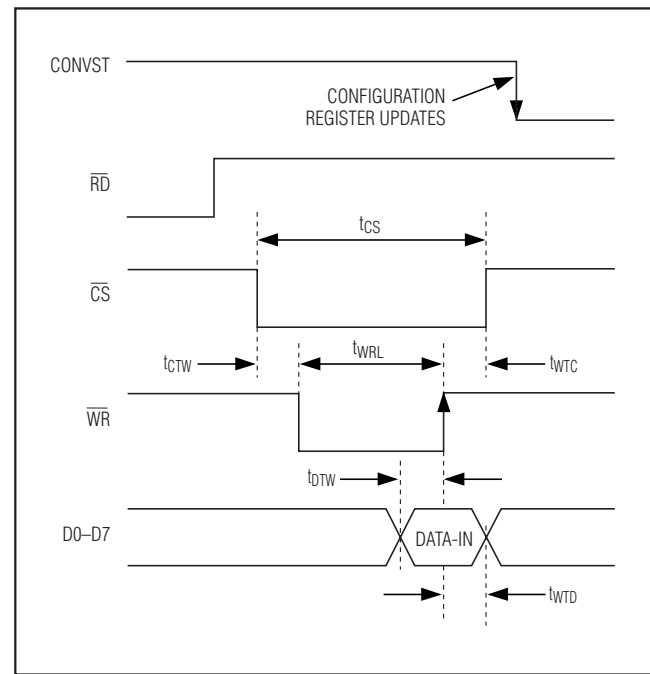

Figure 6. Write Timing
The bidirectional parallel digital interface allows for setting the 8-bit configuration register (see the *Configuration Register* section) and reading the 12-bit conversion result. The interface includes the following control signals: chip select ($\overline{\text{CS}}$), read (RD), write ($\overline{\text{WR}}$), end of conversion (EOC), end of last conversion (EOLC), conversion start (CONVST), shutdown (SHDN), channel shutdown (CHSHDN), internal clock select ($\text{INTCLK}/\text{EXTCLK}$), and external clock input (CLK). Figures 6, 7, 8, 9, Table 2, and the *Timing Characteristics* show the operation of the interface. D0–D7 are bidirectional, and D8–D11 are output only. D0–D11 go high impedance when $\text{RD} = 1$ or $\overline{\text{CS}} = 1$.
To write to the configuration register, pull $\overline{\text{CS}}$ and $\overline{\text{WR}}$ low, load bits D0 through D7 onto the parallel bus, and force $\overline{\text{WR}}$ high. The data are latched on the rising edge of $\overline{\text{WR}}$ (Figure 6). Write to the configuration register at any point during the conversion sequence. At power-up, write to the configuration register to select the active channels before beginning a conversion.
Entering and exiting shutdown mode does not change the configuration byte. However, a new configuration byte can be written while in shutdown mode by following the standard write procedure shown in Figure 6.